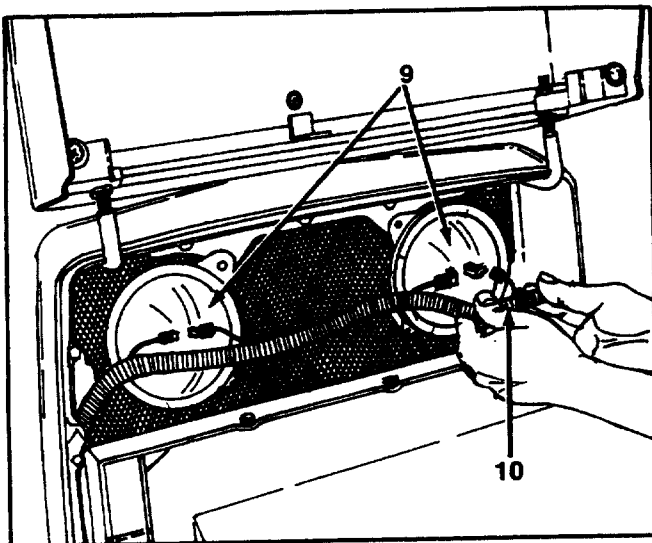

FIGURE 5.
6. Disconnect headlight wiring harness at each headlight. See figure 5.